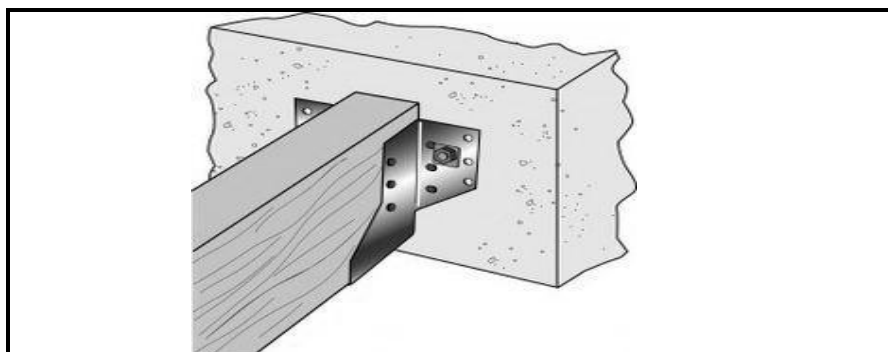

FIGURE 6.7
- 6.7 FIGURE 6.7 below shows a fastener used to join materials. Identify the fastener.